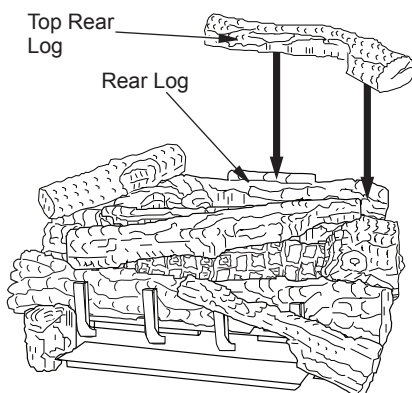

Figure 44 - Installing Top Rear Log
11. Place the top rear log onto the rear log as shown. The rear log has a projection that will fit into the recess area on the bottom of the top rear log (see Figure 44).